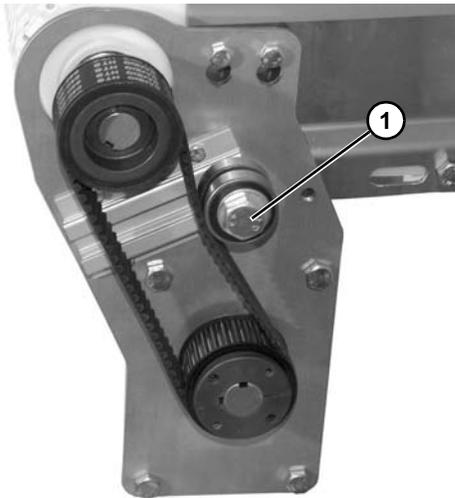

Figure 28
- Loosen tensioner screw (Figure 28, item 1).